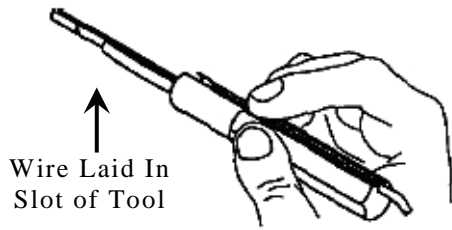

Figure 13. Inserting Wire into Removal Tool
b. Place wire of contact to be removed into removal tool, with tip facing connector insert (Figure 13).